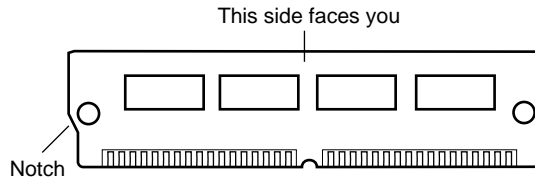

Figure 3-11 Orienting the SIMM When Facing the Rear of the Workstation
- Facing the rear of the workstation and using both hands, grasp the top of the SIMM so the notch in the bottom corner of the SIMM is on your left, as shown in Figure 3-11.